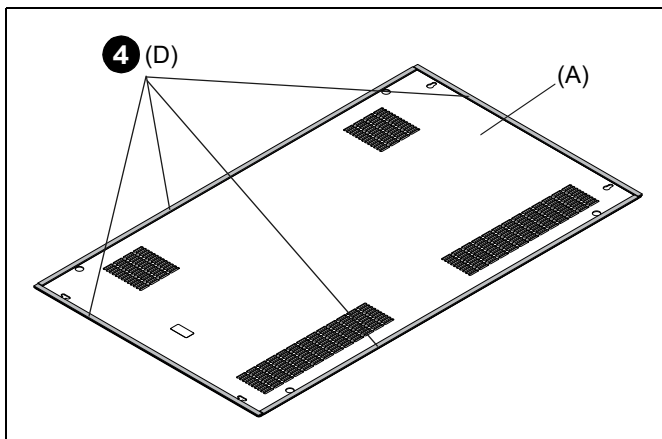

Figure 2
1. Apply foam tape (D) to the edge of the partition (B).
2. Partially install two M8 x 16mm Torx screws (E) to the inside of the frame. (See Figure 2)
3. Position the slots in the partition (B) over the two M8 x 16mm Torx screws (E), then slide it towards the back of the display. Tighten the M8 x 16mm Torx screws. (See Figure 2)
4. Apply foam tape (D) along the outside edges of the back cover (A). (See Figure 2)